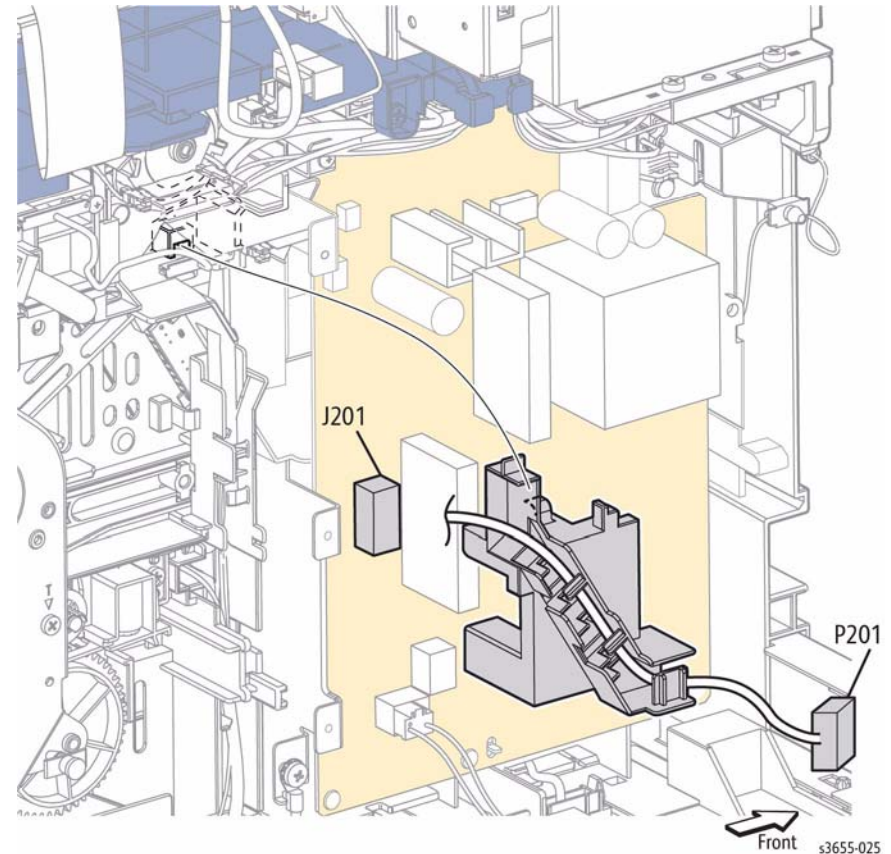

Figure 1 Release the Fuser Harness Guide
13. Refer to Figure 1 to locate and disconnect the Fuser from the LVPS, then release 1 hook at top that secures the fuser harness guide.